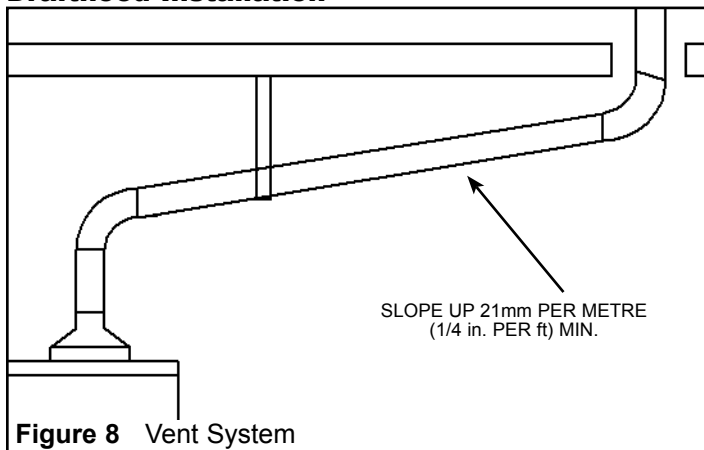

Figure 8 Vent System
**Note:** The horizontal section of the vent must slope up 21mm per metre (1/4 in. per foot), (see Figure 8).